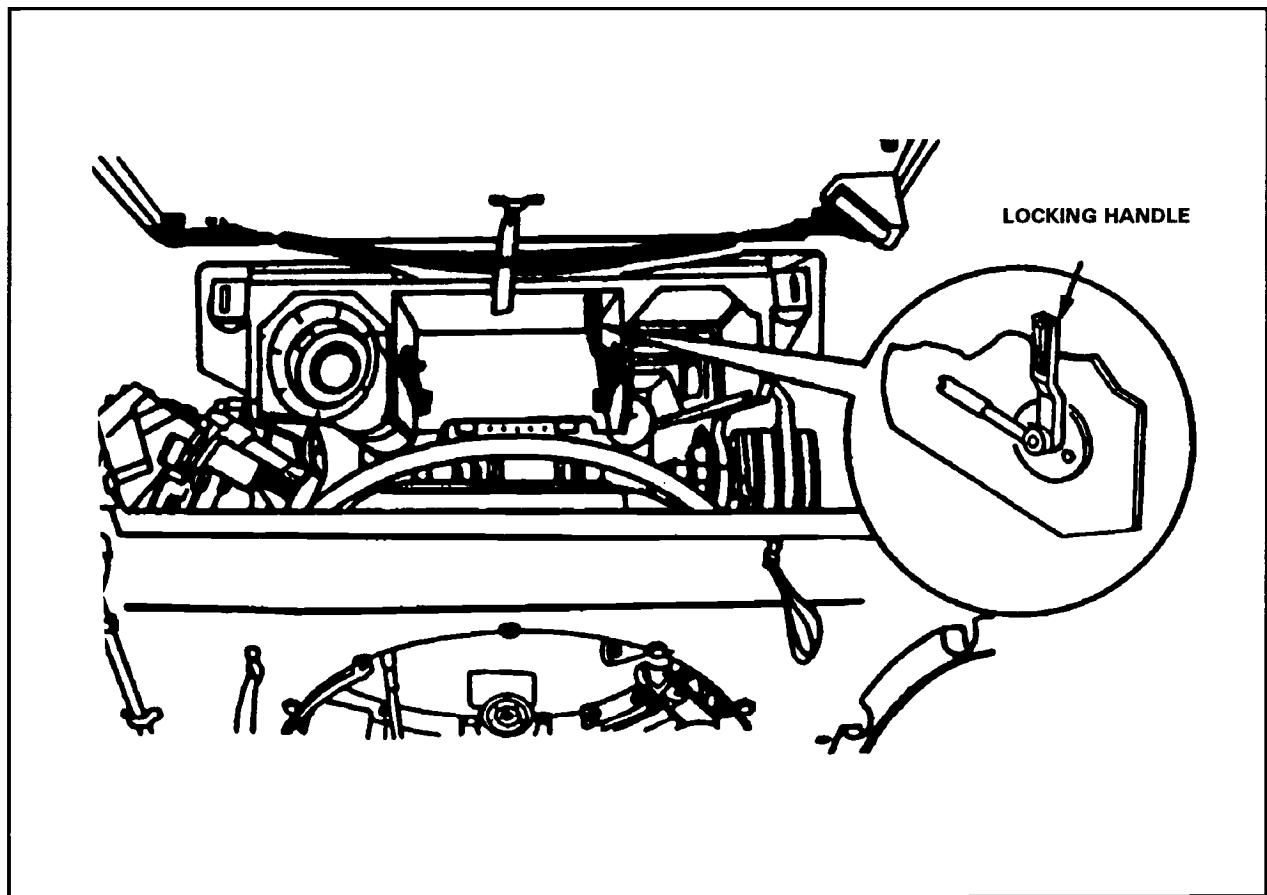

Figure 4-5. Locking handle.
(1) The loader opens the cargo hatch to the first detent. He secures the encased missile and places indexing lugs on the launcher rail and slides the missile forward until the front of the missile seats against the forward centering ring. He holds the missile in place while pulling down the locking handle (Figure 4-5, page 4-10). (He repeats the procedure for the other missile if two missiles are to be loaded.) The loader closes the cargo hatch by releasing the cargo hatch detent lock lug and pulling down on the cargo hatch strap.
(2) Once the launcher has been loaded, the gunner moves the MODE SELECT switch to ERECT. He pushes the ERECTION DRIVE switch up and holds until the LAUNCHER ERECT, LAUNCHER READY, AZ LOAD, and ELEV LOAD indicators are lit. Then, he traverses the turret to about 180 degrees (the AZ STOW indicator light should come on) and depresses the launcher until the ELEV STOW indicator lights. He moves the MODE SELECT switch to STOW and pushes the ERECTION DRIVE switch up and holds it. The STOW position indicator will light when the launcher is in the stow position (at this time the LAUNCHER ERECT and LAUNCHER READY indicators should be off); if the indicator lights go off, the gunner erects the launcher and repeats the stowing procedures. Once the launcher is in the STOW position, the gunner moves the TURRET POWER switch to OFF.